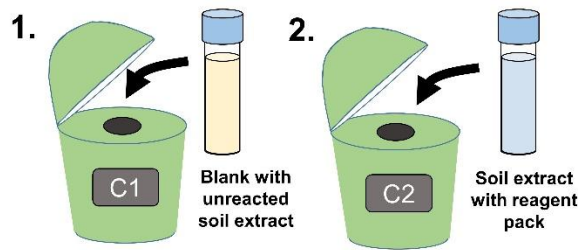

Figure 2. Reading the level of phosphate in the extract using a control vial and one with a color reagent added.
12. Pour 10 mL of the acidified extract from the graduated cylinder into an 11 mL vial for the colorimeter. Add the contents of one reagent packet, close and shake well. Pour the remaining contents of the graduated cylinder (the other 10 mL) into another vial as a blank (see Fig. 2 below).